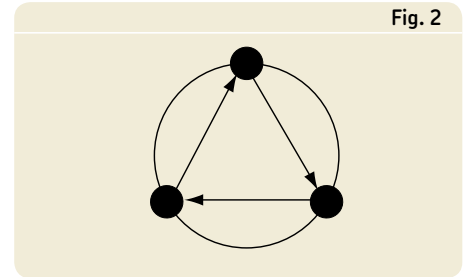

Fig. 2
7. Hold the short end of the hexagonal key and tighten the screws a 1/2 turn each according to the mounting pattern (→ **fig. 2**). Continue to tighten the screws to finger tightness (→ **step 5**).
Bearings for inch shafts are mounted with a clearance fit in the housing. To prevent movement of the bearing in its seating (wandering) the outer ring is equipped with an anti-rotation pin (→ **fig. 2**).